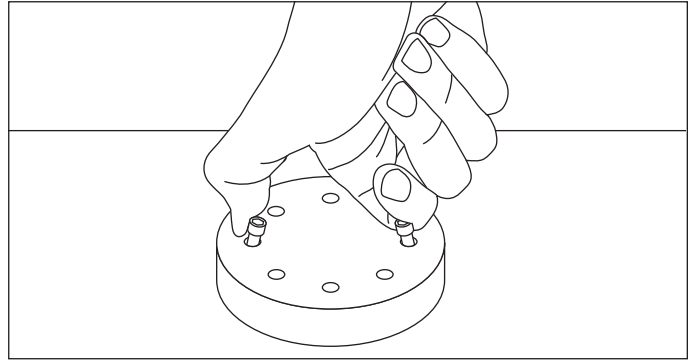

Figure 4.3: Piston head removal
3. Loosen the piston head bolts and remove the piston head as shown in figure 4.3 by pinching two loose bolts together.
1. **To replace the first stage piston of the model 351 or the first and second stage pistons of the model 391,** remove the piston head by loosening and removing the socket head bolts holding the piston head to the piston platform (see Figure 4.3).